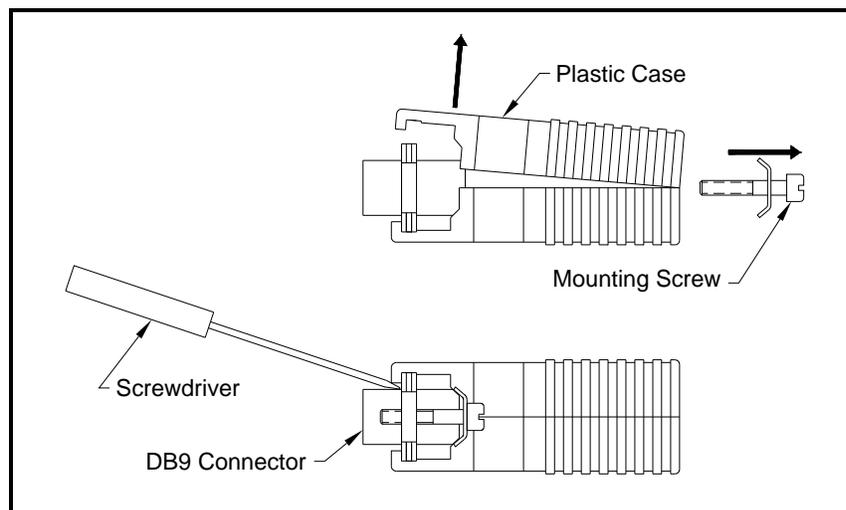

Figure 9: Opening the Converter Case
3. Remove the serial interface converter *mounting bracket* by removing the standoff located just below the RS232 terminal block and the grounding screw to its left (see Figure 9 on page 91).
5. Use a small screwdriver to pry open the *plastic case* of the serial interface converter, as shown in Figure 9 on page 91.